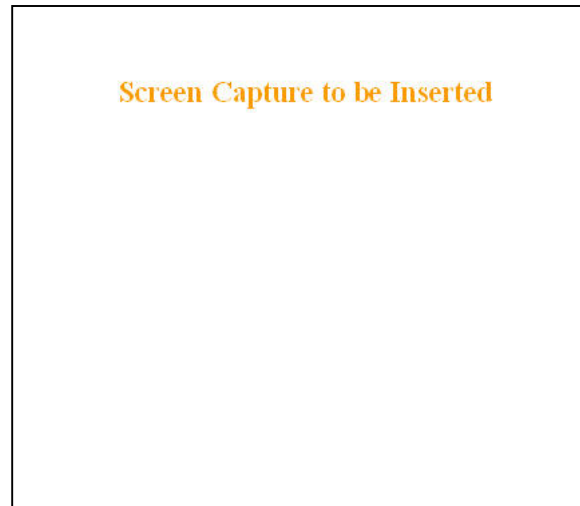

Figure 14 - Setup Wizard - Page Two
3. On page two (Figure 14) of the Setup Wizard, read the on-screen instructions. Once the System ID is entered, click Apply Your Changes. Wait for the Progress bar activity to stop (*right side of the Status bar*). Click on Proceed to Next Step. *If no change is made to the System ID dialog box, click on Proceed to Next Step.*